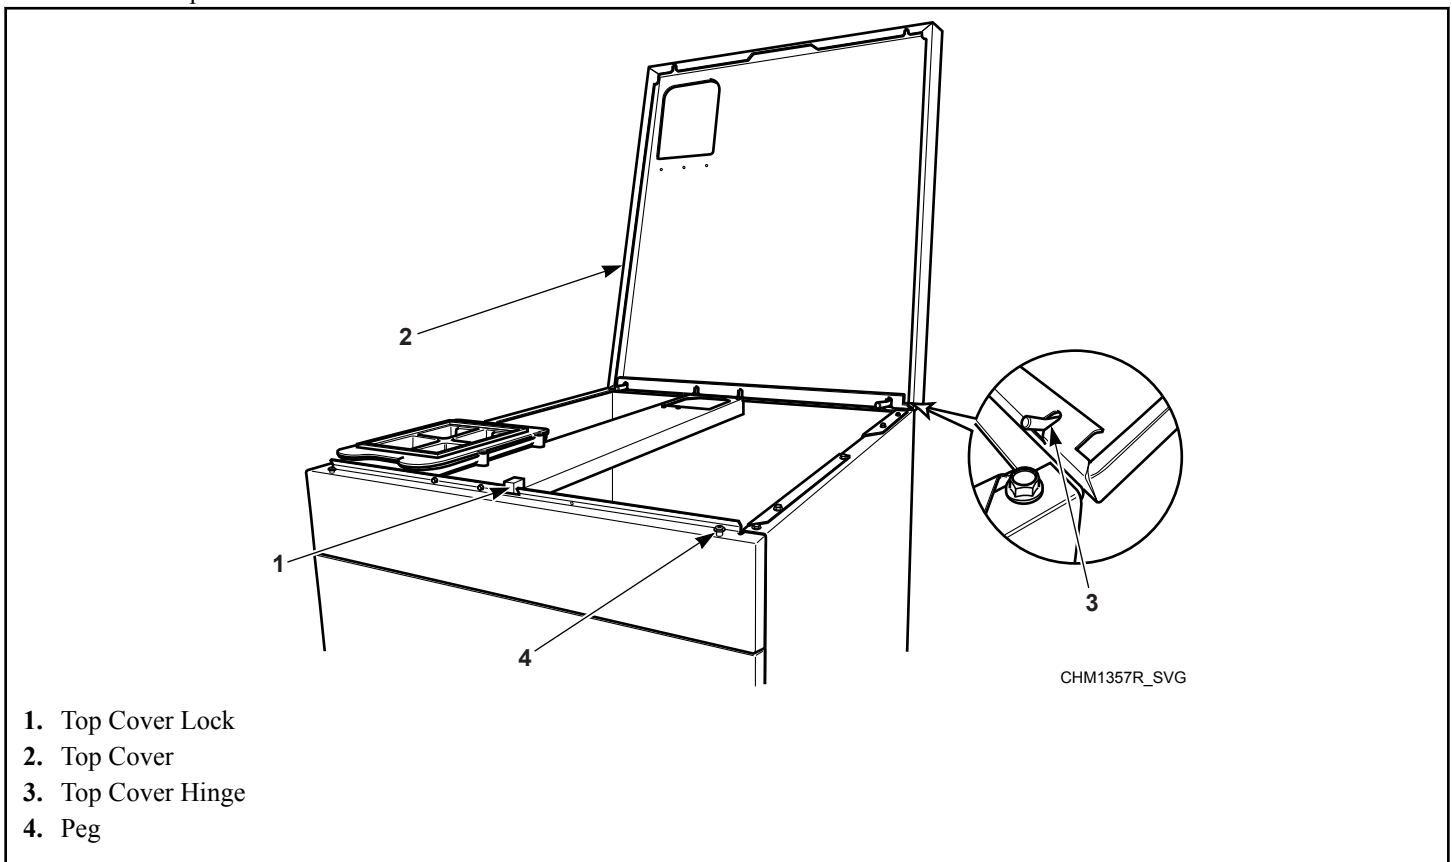

Figure 16
3. Lift the top cover up. Refer to *Figure 16*.